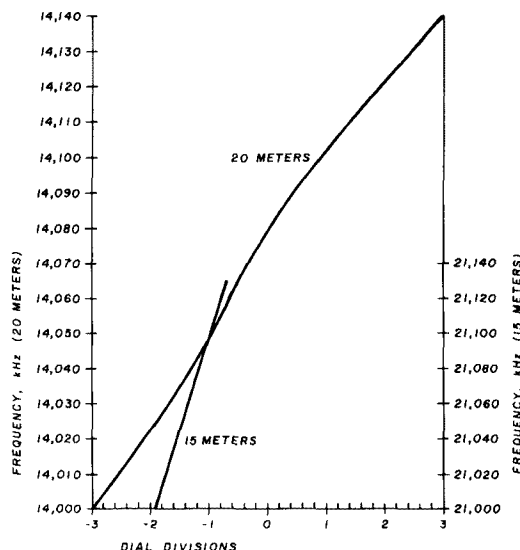

fig. 11. Calibration of "Minicruiser" iron-vane transmitter VFO.
**Performance.** Fig. 11 is a set of calibration curves for the iron-vane VFO of fig. 9 at the frequencies observed after doubling. They are quite linear over a fairly wide range. Irregularities are no doubt caused by imperfections in the hand-wound variable inductance.